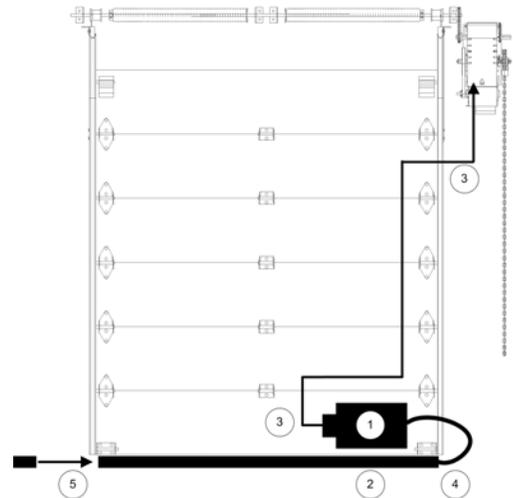

Figure 14 - Reversing Edge
1. Place the air switch in position, refer to Figure 14.
1. Place the junction box in position, refer to Figure 14.